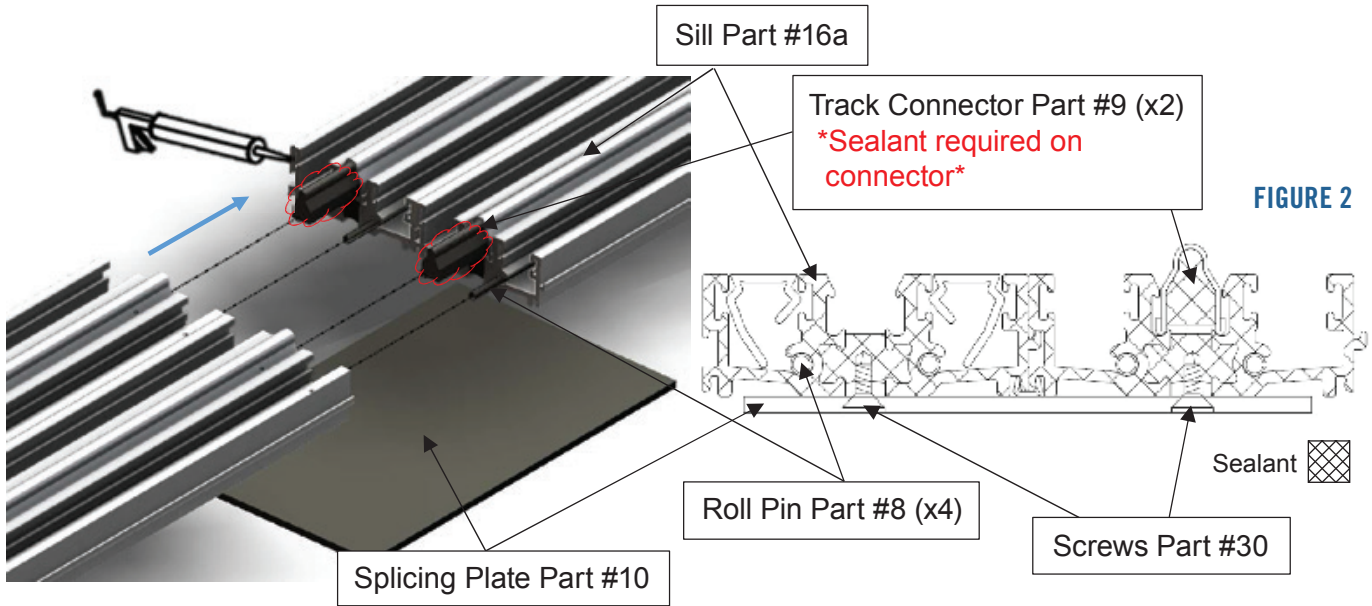

FIGURE 1
6. Splicing is required for doors wider than extrusion stock length. To splice the sill (and Flush Set Sill), insert roll pins (Part #8) halfway into screw channels as shown in Figure 1. Coat track connectors (Part #9) in sealant (Sealant should conform to AAMA 802.3-16 and 803.3-16) and slide halfway into the roller track. Coat the entire cross-sectional face with sealant as shown in Figure 2 and join the components by tapping one track into the other. Lastly, fasten Splicing Plate (Part #10) over the junction using Part (#30 screws). Screw in the location of the thermal dividers (shown in Figure 2). Splicing plate is not required for a flush set sill. Before screwing the plate to the sill, use a $\frac{3}{8}$ " countersink bit to create countersinks for the top of the flat head screws to sit flush with the plate.
7. To splice the head (Figure 1), insert roll pins (Part #8) into the head screw channels. Coat the entire cross section in sealant as shown in Figure 2, join components, and ensure track clip (Part #7) crosses over the splice (if multiple track door). Lastly, attach splicing plate (Part #10) over the junction using (Part #30) screws at the thermal breaks. Countersink the plate for the screws beforehand.